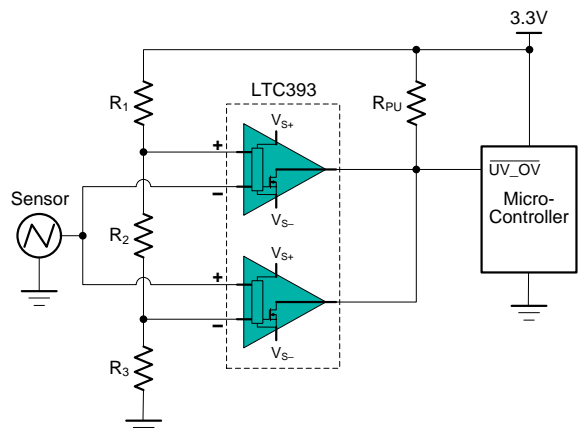

Figure 6. Window Comparator
Window comparators are commonly used to detect undervoltage (UV) and overvoltage (OV) conditions. Figure 6 shows a simple window comparator circuit.
Configure the circuit as shown in Figure 6. Connect V_{S+} to a 3.3-V power supply and V_{S-} to ground. Make R_1 , R_2 and R_3 each 10-MΩ resistors. These three resistors are used to create the positive and negative thresholds for the window comparator (V_{TH+} and V_{TH-}). With each resistor being equal, V_{TH+} is 2.2V and V_{TH-}